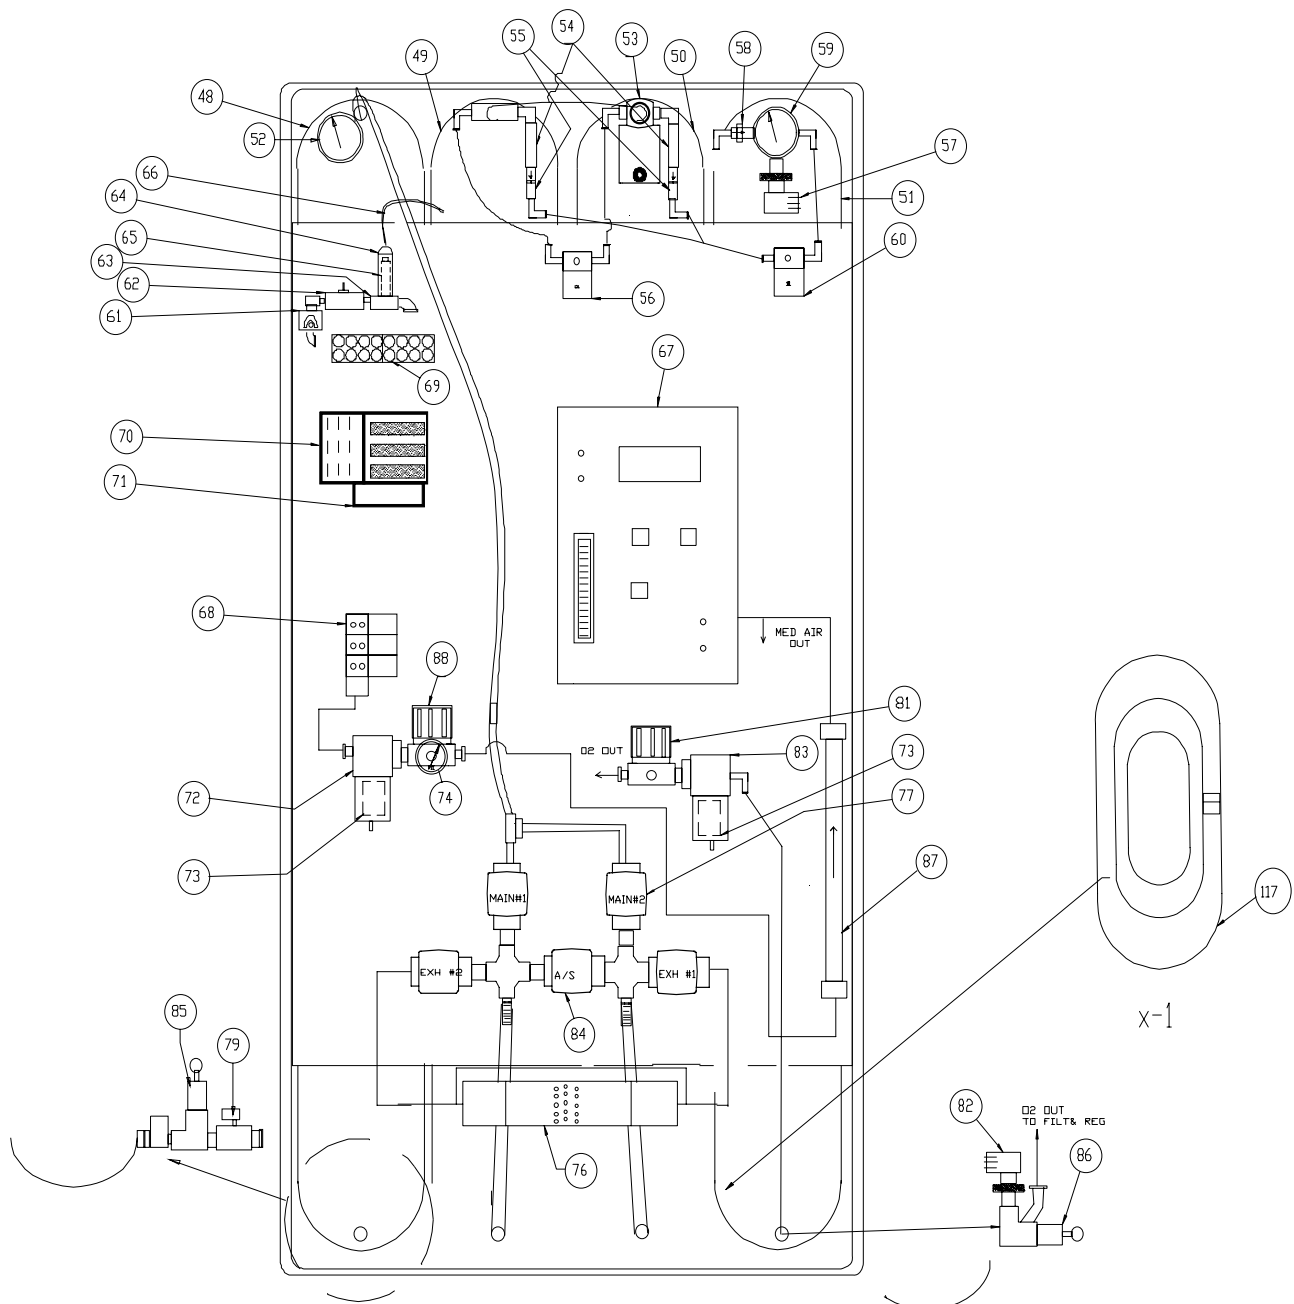

Figure 3
7.2.10 Generator Interior (Fig. 3)
(Fig. 3)